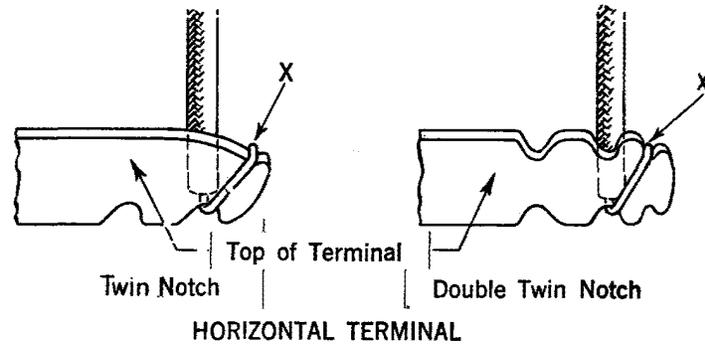

Fig. 10 - Termination of Wire on Terminal Having a Twin Notch or Double Twin Notch
8.13 To terminate wires on a terminal strip provided with terminals having twin notches or double twin notches where only one set of leads is required, connect them in the outer notches unless it is necessary to reserve these notches for strapping subject to change in service. The jumpers should be terminated as described in 8.11 and 8.12 and as shown in Fig. 10.